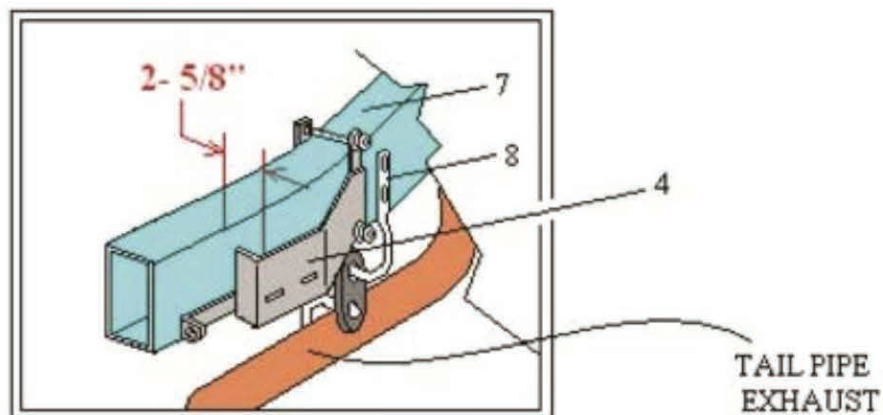

Fig. 4
Refer to Fig. 4 and Fig. 5 loosen nut (2) on bumper 1 as shown in Fig. 5 then adjust the frame extension plate (4) either closer or further from vehicle frame (7) so that an approximate 2-5/8" spacing is provided between frame (7) of the vehicle and frame extension plate (4) along points (A) to (B) as shown in Fig. (5). Once measurements have been confirmed fully tighten nut and washer (2).